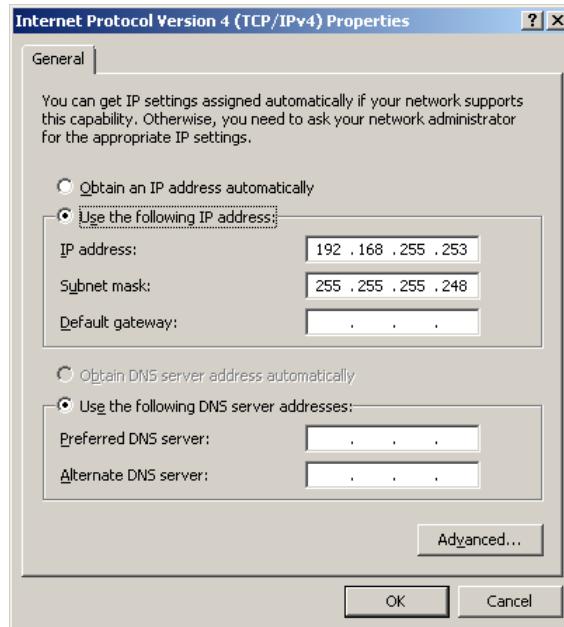

Figure 1.3-3 Internet Protocol Version 4 (TCP/IPv4) Properties dialog box
The “Internet Protocol Version 4 (TCP/IPv4) Properties” dialog box (Figure 1.3-3) will appear.
- (5) Set the IP address and subnet mask just as shown on the “Internet Protocol Version 4 (TCP/IPv4) Properties” dialog box (Figure 1.3-3).